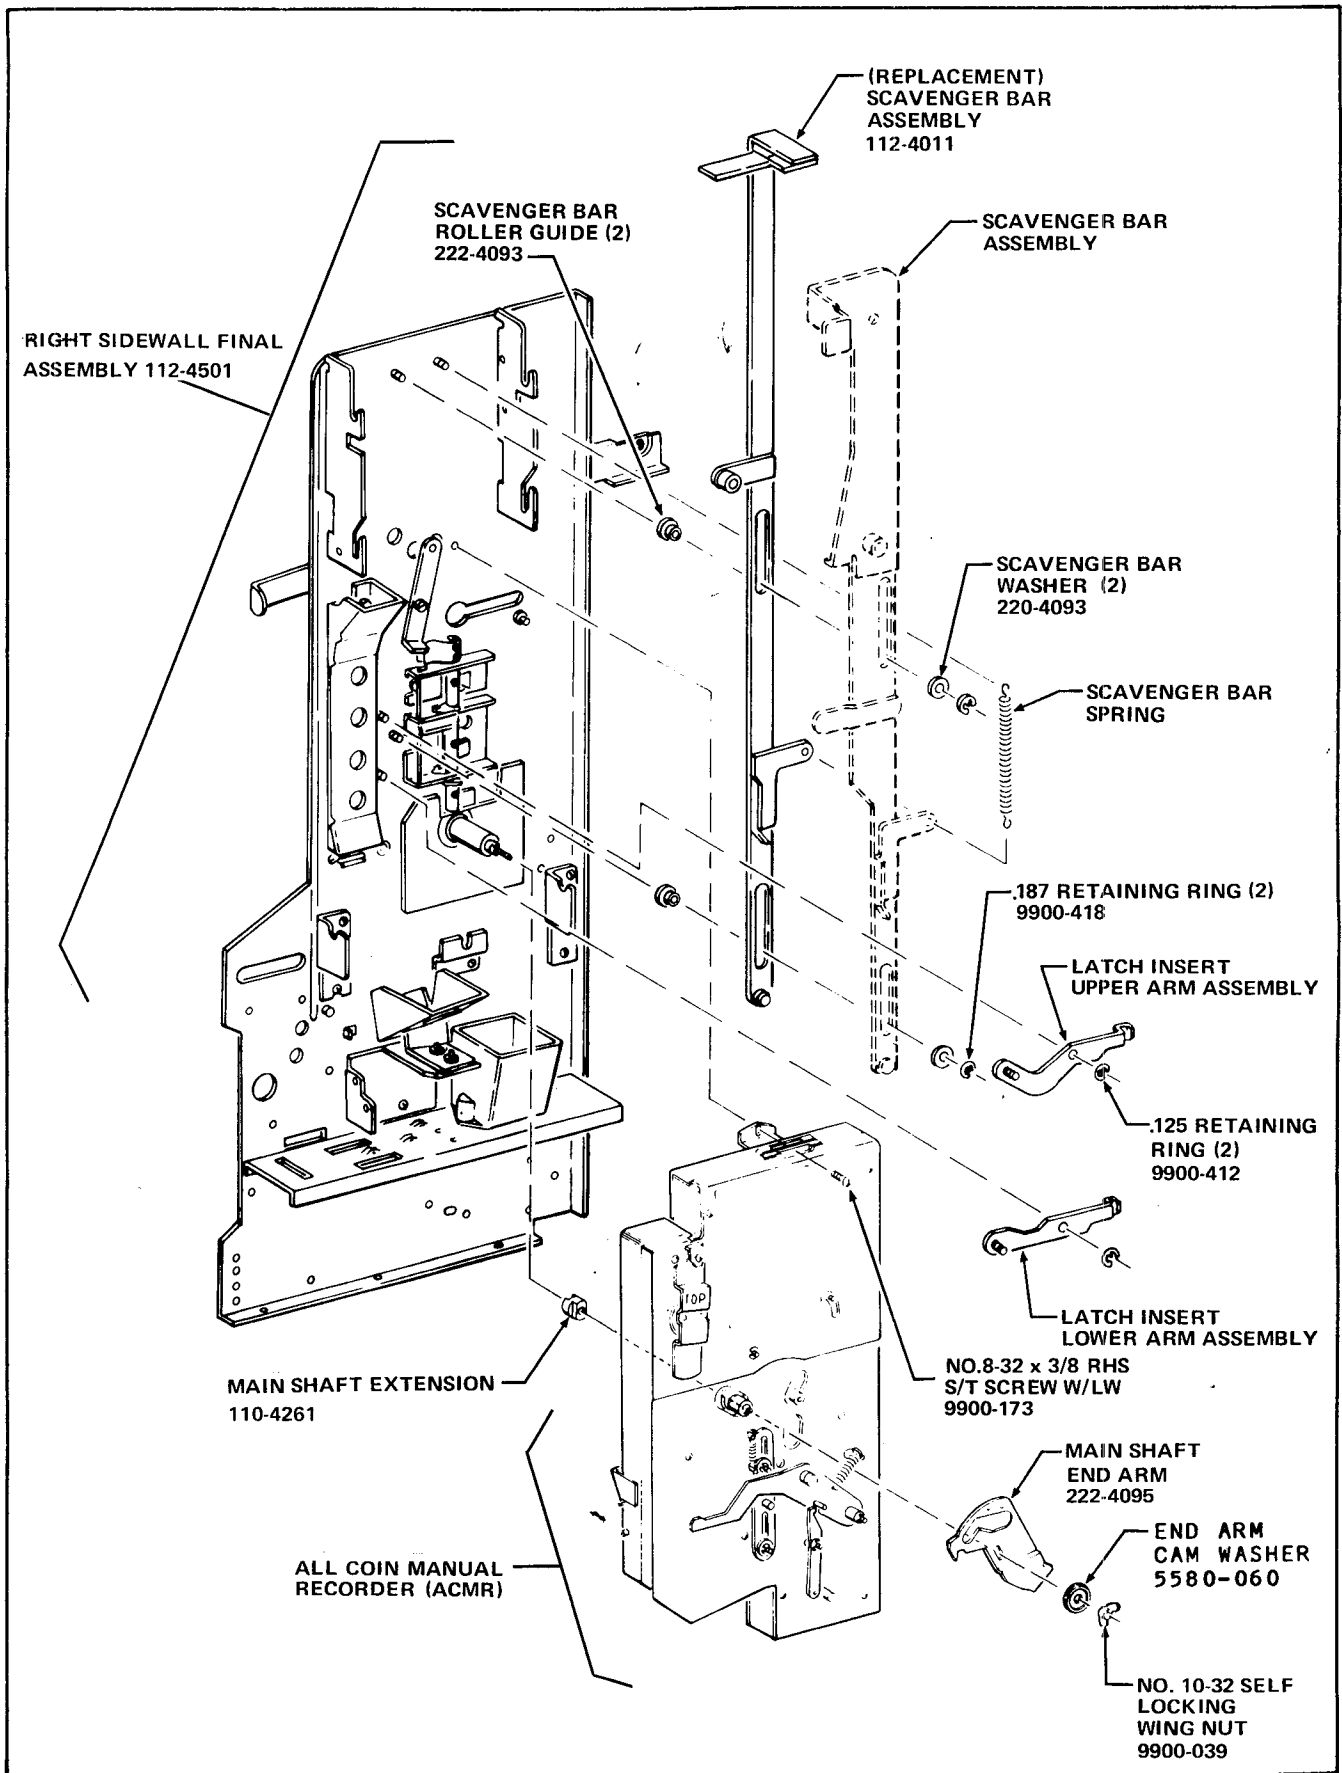

FIGURE 4-2
1. Remove a Retaining Ring and the Latch Insert Upper Arm Assembly from the Right Sidewall. Retain the Arm Assembly. See Figure 4-2.
2. Remove a Retaining Ring and the Latch Insert Lower Arm Assembly from the Right Sidewall. Retain the Arm Assembly. See Figure 4-2.
3. Remove the end of the Scavenger Bar Spring attached to the Scavenger Bar on the Right Sidewall. See Figure 4-2.
4. Remove two Retaining Rings, two Scavenger Bar Washers, Scavenger Bar Assembly and two Scavenger Bar Roller Guides from the Right Sidewall. See Figure 4-2.
5. Install two Scavenger Bar Roller Guides, Part Number 222-4093, included in the Kit, on two studs of the replacement Right Sidewall. Make sure the wide end of the Roller Guides rest against the Sidewall. See Figure 4-2.
6. Install the Scavenger Bar Assembly, Part Number 112-4011, included in the Kit, by fitting the slots of the Scavenger Bar Assembly over the Scavenger Bar Roller Guides. Make sure the arm on top of the Scavenger Bar Assembly points towards the front of the Right Sidewall. See Figure 4-2.
7. Attach the Scavenger Bar Assembly to the Right Sidewall using two Scavenger Bar Washers, Part Number 220-4093 and two .187 Retaining Rings, Part Number 9900-418, both included in the Kit. See Figure 4-2.
8. Attach the Scavenger Bar Spring to the Hole in the Angle Arm of the Scavenger Bar Assembly. See Figure 4-2.
9. Install the Latch Insert Upper Arm Assembly removed in Step B-1 on the Right Sidewall, as shown in Figure 4-2, and attach with a .125 Retaining Ring, Part Number 9900-412, included in the Kit.
10. Install the Latch Insert Lower Arm Assembly removed in Step B-2 on the Right Sidewall, as shown in Figure 4-2, and attach with a .125 Retaining Ring, Part Number 9900-412, included in the Kit.
39. Install the Main Shaft Extension, Part Number 110-4261, included in the Kit, on the Main Shaft of the Right Sidewall by matching the slotted end of the Main Shaft Extension with the shouldered end of the Main Shaft. See Figure 4-2.
40. Install an All Coin Manual Recorder (ACMR) on the Right Sidewall by fitting the Main Shaft of the Sidewall through the hole in the ACMR. Mount the studs on the sides of the ACMR on top of the Mounting Brackets on the Right Sidewall. See Figure 4-2.
41. Attach the top of the ACMR to the Right Sidewall with a No.8-32 x 3/8 RHS Self Tapping Screw with Lockwasher, Part Number 9900-173, included in the Kit. See Figure 4-2.
42. Install the Main Shaft End Arm, Part Number 222-4095, included in the Kit, on the Main Shaft protruding through the ACMR and attach with an End Arm Cam Washer, Part Number 5580-060, and No.10-32 Self Locking Wing Nut, Part Number 9900-039, both included in the Kit. See Figure 4-2.